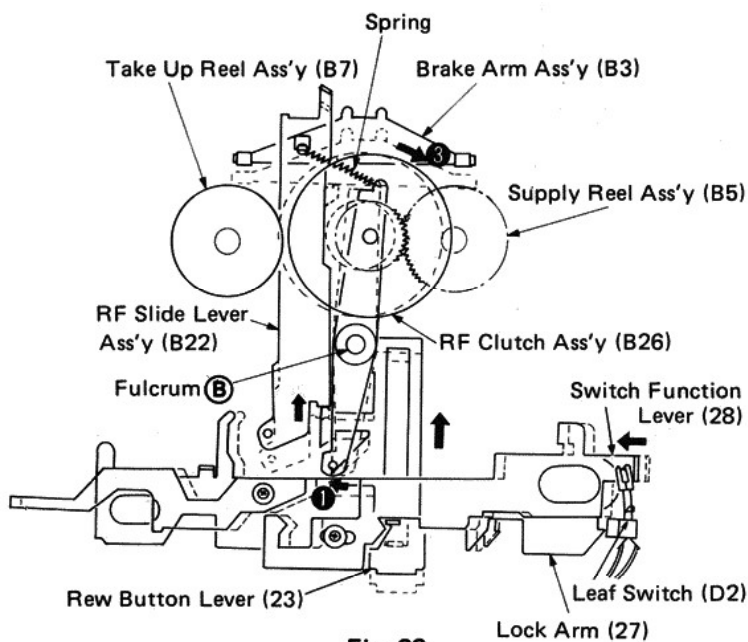

Fig. 23
- 1 When the REW button is pressed, the rewind button lever (23) and the switch function lever (28) are locked by the lock arm (27).
- 2 The leaf switch (D2) is turned on by the switch function lever (28) and the motor begins to run. In this state the RF clutch assembly (B26) also begins to rotate.
- 3 Since the RF slide lever assembly (B22) is pushed by the rewind button lever (23), the brake arm assembly (B3) uncouples from the supply reel (B5) and the take-up reel (B7) to release the brake. (Fig. 23)
- 4 When the rewind button lever (23) is pushed forward, the RF clutch assembly (B26) revolves around the fulcrum ② in direction ①, thus causing its opposite side to move in ③ direction and mesh with the gear of the supply reel assembly (B5). Then the supply reel (B5) rotates to assume the REW mode. (Fig. 23)